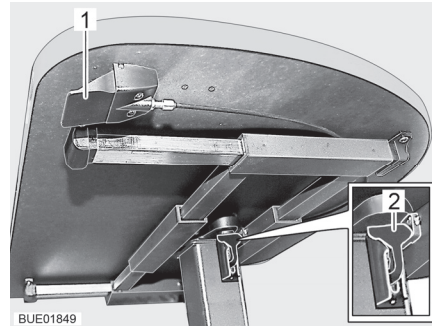

Fig. 80 Lift-off table with release button
- Pull or press down the catch lever (Fig. 80,2).
- Press the catch lever (Fig. 80,2) upwards.
- Press the release button (Fig. 80,1) and hold it down. The table top moves automatically upwards to the limit stop.
- Release the release button (Fig. 80,1). The table top remains in the desired position.
- Press the release button (Fig. 80,1) and hold it down.
- Release the release button (Fig. 80,1). The table top remains in the lowest position.